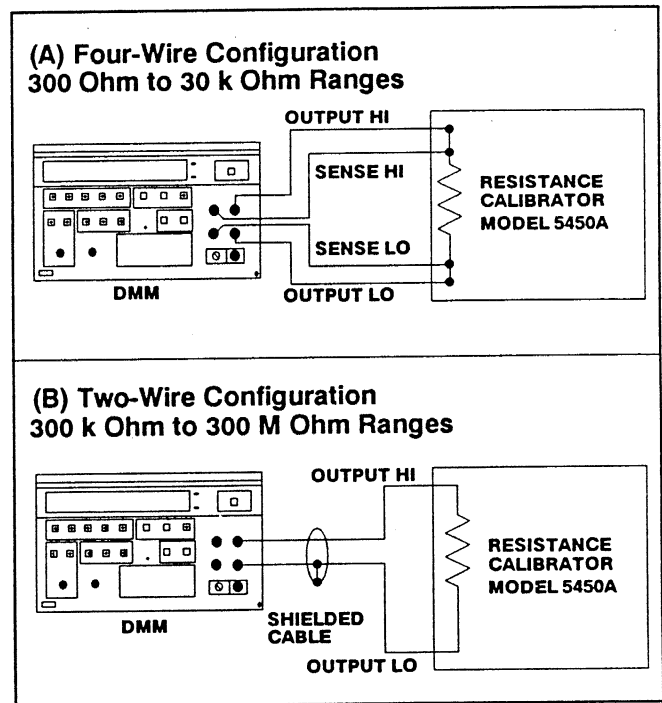

Fig. 2-3. Connections for Ohms Check.
- Connect the DMM to the resistance calibrator as shown in Fig. 2-3.
- Connecting the DMM and resistance calibrator as shown in Fig. 2-3, check the 3 k Ω through 300 M Ω ranges by applying the respective resistance levels listed in Table 2-4.